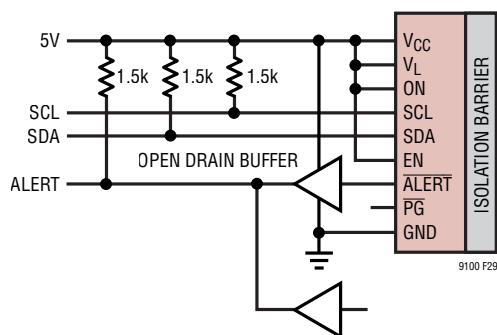

Figure 29. Open Drain Buffer for Shared ALERT Bus
Any of eight distinct I2C bus addresses are selectable using the three-state pins ADR0 and ADR1, as shown in Table 2. Note that the configuration of ADR0 = L and ADR1 = H is used to enable the single-wire broadcasting mode. For the eight I2C bus addresses, address bits b7, b6 and b5 are configured to (001) and the least significant bit b0 is the R/W bit. In addition, the LTM9100 will respond to two special addresses. Address (0011 111) is a mass write used to write to all LTM9100s, regardless of their individual address settings. Address (0001 100) is the SMBus alert response address. If the LTM9100 is pulling low on the  $\overline{\text{ALERT}}$  pin, it will acknowledge this address using the SMBus alert response protocol. Note, if multiple LTM9100's are configured to share a single ALERT bus then the addition of an open drain buffer is necessary, see Figure 29.